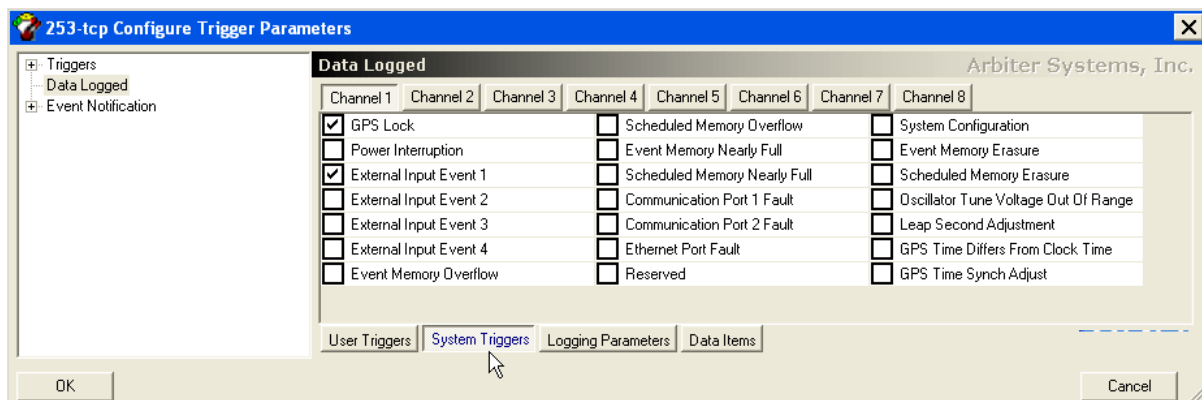

Figure 8.4: Configure External Event Inputs Screen
2. Select Data Logged on the left panel of the Configure Triggers window and click the System Triggers button near the bottom of the window (see Figure 8.4).